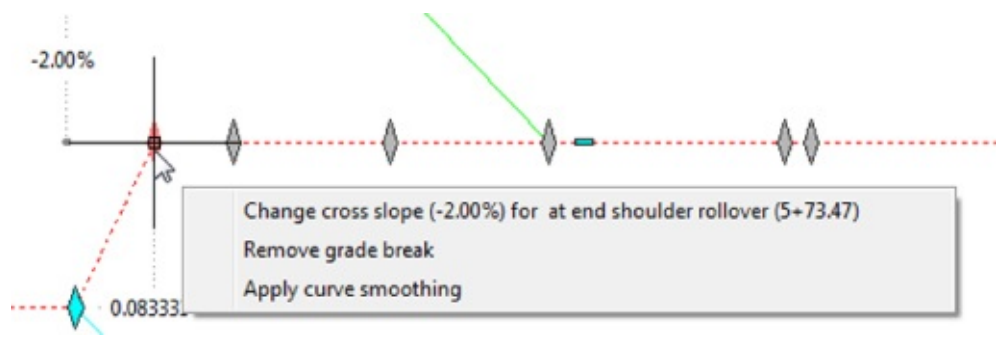

Figure 11.28 The grip menu at the superelevation critical station
4. Select Remove Grade Break from the grip menu, as shown in Figure 11.28. Press Esc after the grip is removed.